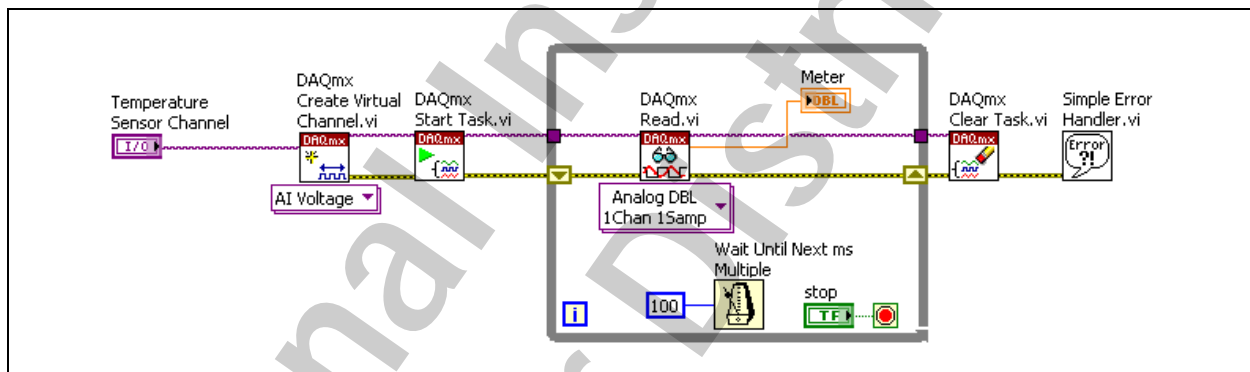

Figure 3-5. Voltmeter VI Block Diagram
3. Create the block diagram to perform a continuous software-timed acquisition, as shown in Figure 3-5, using the following items: